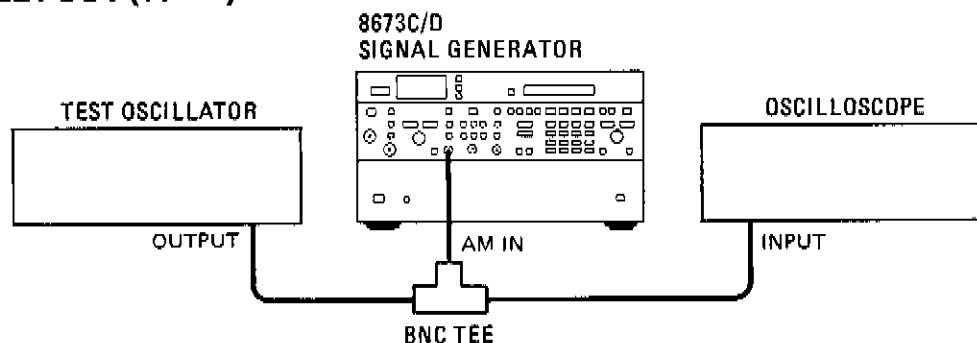

Figure 8-48. AM Check Test Setup
19. Set the Signal Generator for AM 100% and connect the test equipment as shown in Figure 8-48.